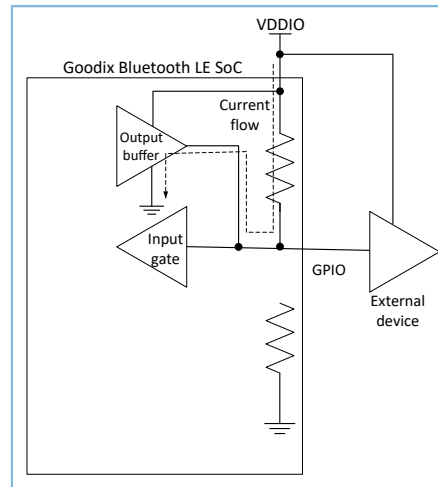

Figure 4-5 Current schematic for GPIO as output for low voltage level
- (2) If a GPIO pin is configured as an output driving low with a pull-up resistor enabled, the leaked current flows through the pull-up resistor and low-level output buffer to ground, as shown in Figure 4-5.